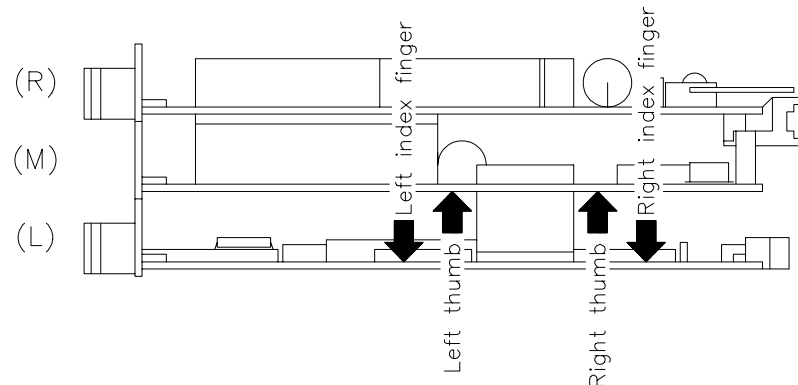

Figure 4 Pressure points at bottom side during disassembly of module
4. Apply pressure at the indicated positions (see Figure 4) using the thumb and index finger of both hands until the space between the boards has increased by approx. 2 mm (0.1 in).